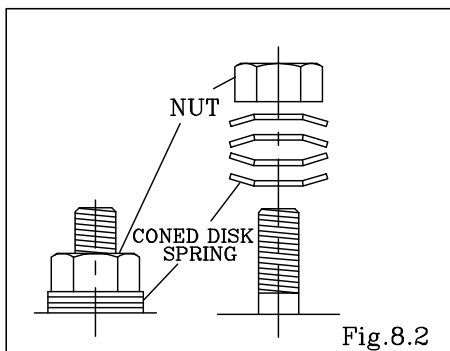

Fig.8.2
- Be careful to installation directions of a spring washer. [Fig.8.2]